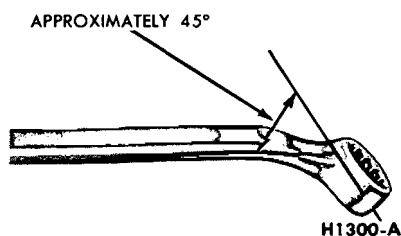

FIG. 6—Brake Bleeder Wrench
1. Position a bent 3/8-inch box wrench on the bleeder fitting on the right rear brake wheel cylinder (Fig. 6). Attach a rubber drain tube to the bleeder fitting. The end of the tube should fit snugly around the bleeder fitting.
3. Position a $\frac{3}{8}$ -inch box wrench on the bleeder fitting on the right rear brake wheel cylinder (Fig. 6). Attach a rubber drain tube to the bleeder fitting. The end of the tube should fit snugly around the bleeder fitting.